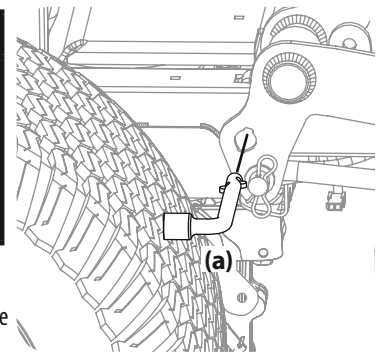

Figure 44
- On tractors equipped with the deck lift knob, use the deck lift pedal and deck lift knob to place the deck in the lowest position and use the multi-tool (a) to lock the deck lift components in place as shown in Figure 44. On tractors with a deck lift handle, lower the deck into the lowest position.